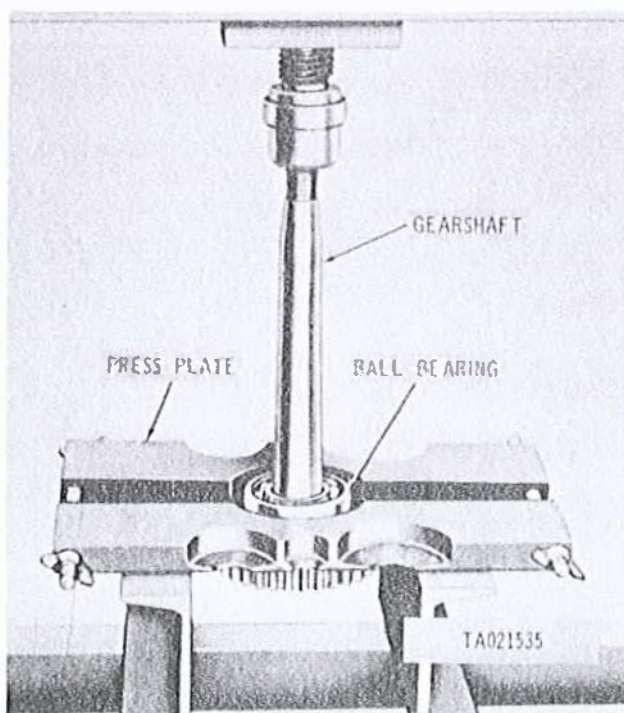

Figure 3-233. Removing fuel injection pump gearshaft ball bearing.
(7) Position fuel injection pump gearshaft (fig. 3-233) in arbor press and press gearshaft from ball bearing using press plate to support bearing. Remove bearing recessed washer (51, fig. 3-231) from shaft.